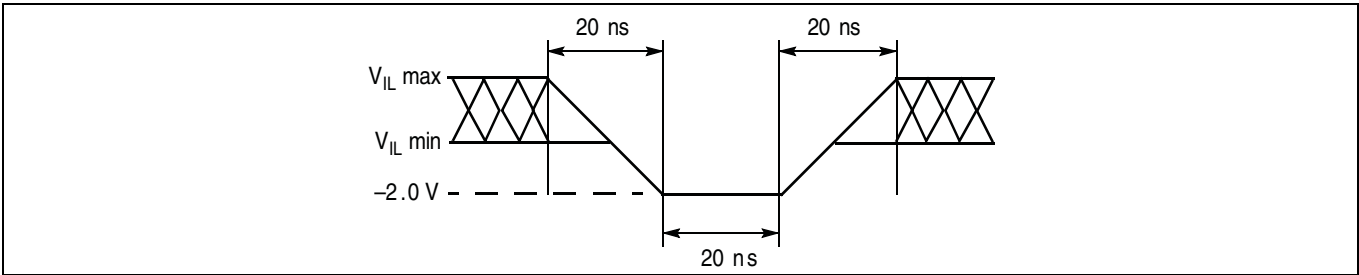
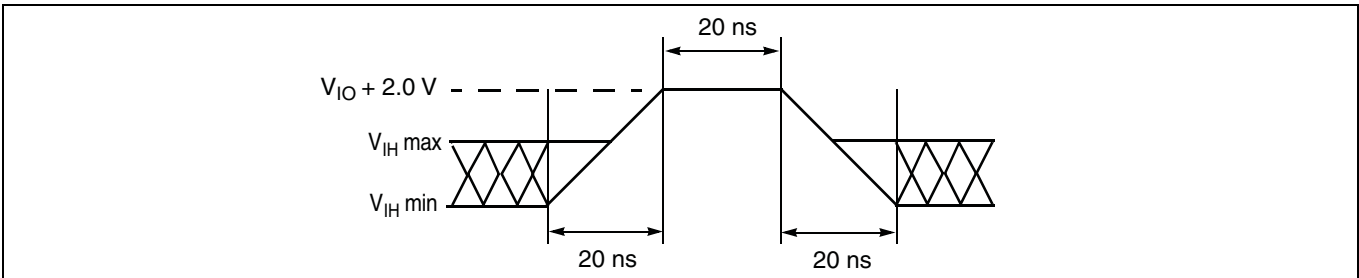

Figure 11 Maximum negative overshoot waveform
Figure 12 Maximum positive overshoot waveform
67. Minimum DC voltage on input or I/O pins is –0.5 V. During voltage transitions, input or I/O pins may undershoot V_{SS} to –2.0 V for periods of up to 20 ns. See Figure 11. Maximum DC voltage on input or I/O pins is V_{CC} + 0.5 V. During voltage transitions, input or I/O pins may overshoot to V_{CC} + 2.0 V for periods up to 20 ns. See Figure 12.